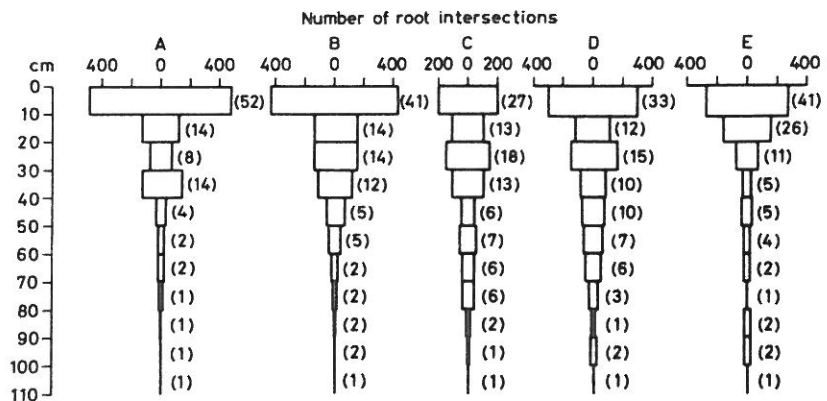

Fig. 1
1. If the soil is in perfect condition and well-structured /Category I type soil/, no beneficial effect is likely, although Nottingham University reported in their trials beneficial results even though no compaction was measurable, primarily due to the deeper rooting /Fig.1/.